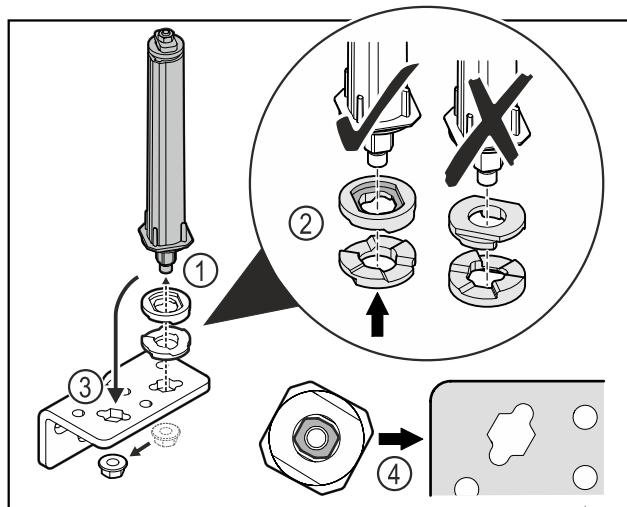

Fig. 25
- Loosen the nut and remove the door closing system Fig. 25 (1).
- Observe the correct alignment of the height adjustment washers Fig. 25 (2).
- Put the door closing system in the hinge and fix in place with the nut Fig. 25 (3).
- Observe the correct alignment of the door closing system when doing so Fig. 25 (4).